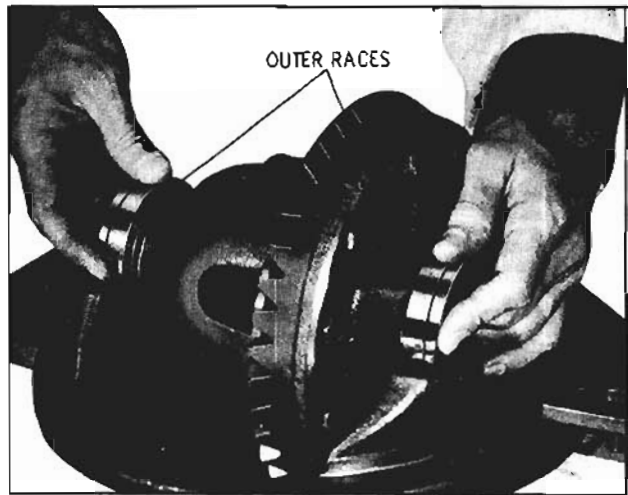

Fig. 10-16 Removing Differential Case
7. Lift the differential case from the carrier while holding the side bearing outer races against rollers. (Fig. 10-16) Remove bearing outer races.